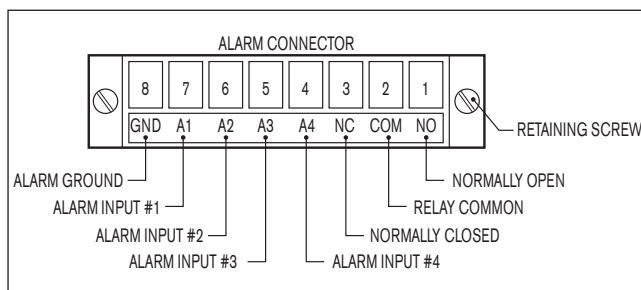

Figure 1C Alarm connector
- a. If the Alarm Inputs or the Relay Output are being used, connect the appropriate wires to the 8-pin Alarm connector (see FIGURE 1C).